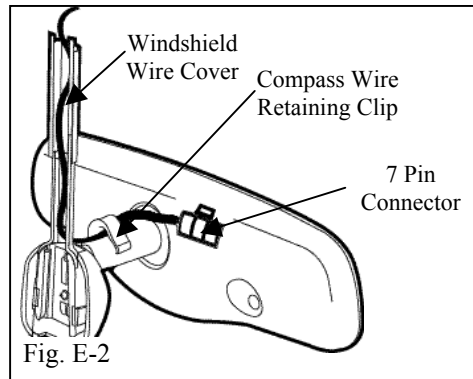

Fig. E-2
3. Plug the wire harness 7-pin connector into the back of the mirror. (Fig. E-2)